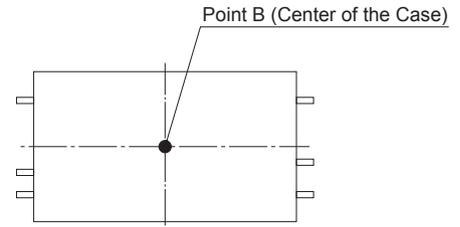

Fig.7.8 Temperature Measuring Point in the case of Forced Air Cooling (Upper Surface of the Case)
② SUC10
■ In the case of forced air cooling (1m/s), please have sufficient ventilation to keep the temperature of point B in Fig.7.8 at 95°C or below.